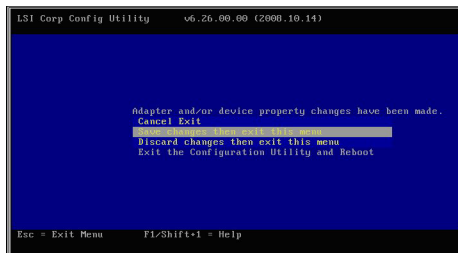

Figure 20. Saving configuration changes for the Onboard SAS Controller
7. Press Esc to exit the Adapter Properties screen until the utility asks you to save the configuration as shown in Figure 20.